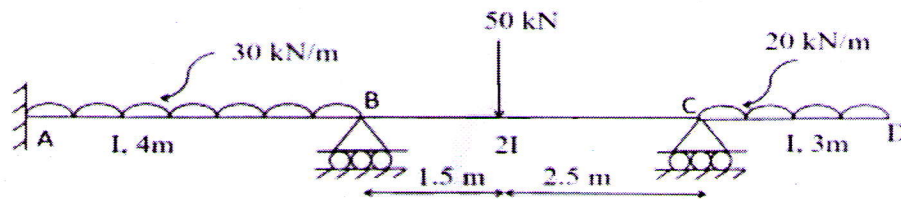

Fig.1
- 1 Analyse the continuous beam given in Fig.1 using Three moment equation. Also draw SFD and BMD. (15)
- 2 a) Write three moment equation and mention the terms involved it. (4)
- b) How will you account for support settlement in the analysis of continuous beams by three moment equation? (3)
- c) Analyse the continuous beam given in Fig.1 by Slope deflection method and draw BMD. (8)